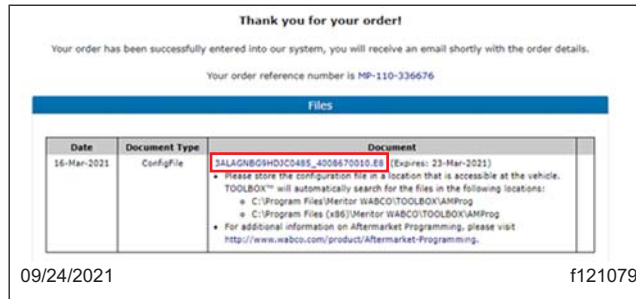

Fig. 9, Link to the Configuration File
10. Once the order is processed, a link to download the configuration file will be displayed. Select the hyper-link to download the configuration file. See Fig. 9.